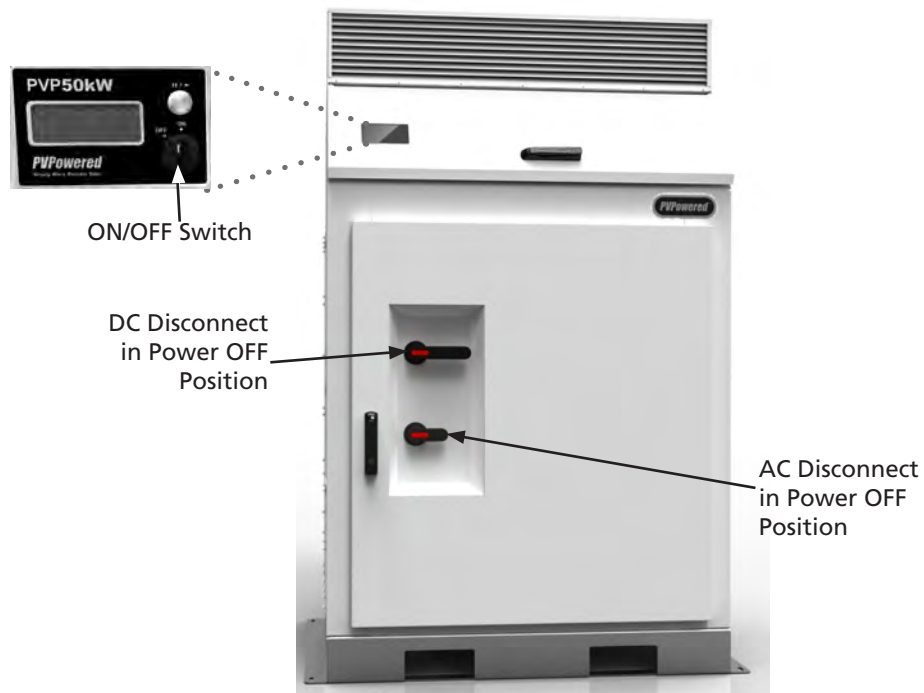

Figure 6-10 AC and DC Disconnect Power OFF
3. Turn the DC disconnect to the power OFF position by rotating the DC power lever to the OFF position shown in Figure 6-10.